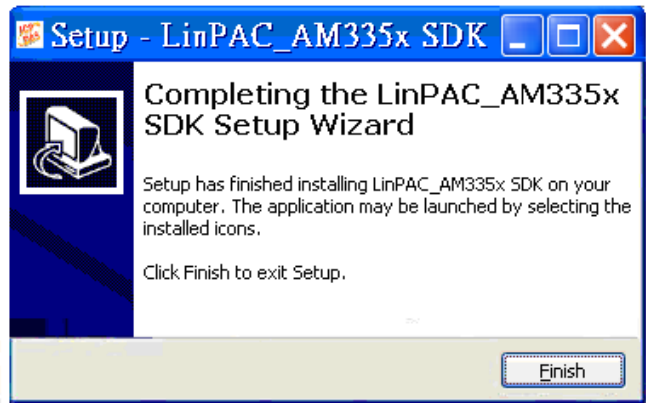

Fig. 3-12
6. Once the software has been successfully installed, click the “Finish” button to complete the development toolkit installation, refer to Fig. 3-12.